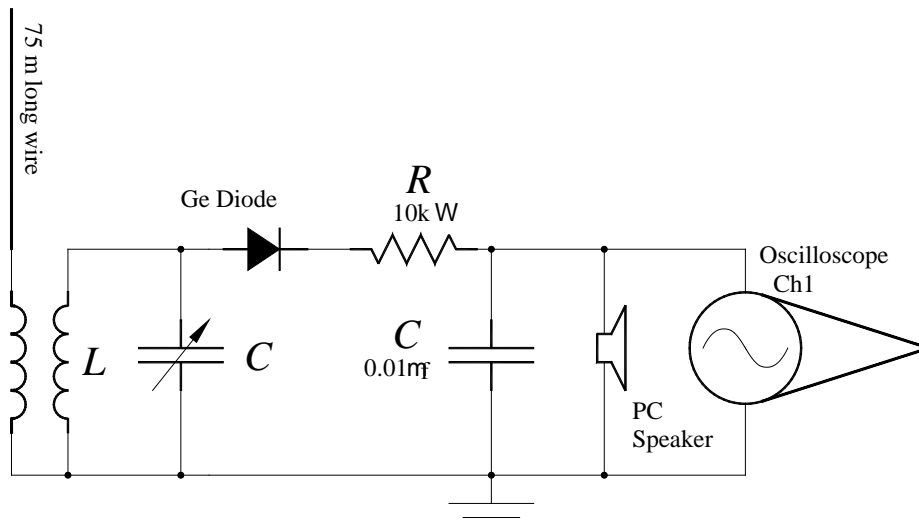

Figure 15 Complete Diagram of a radio with antenna and amplified speaker.
14) Disconnect your circuit from the function generator and oscilloscope by removing all leads attached to your circuit. Leave the rest of the circuit assembled. Please be careful not to drop the ferrite core out of the inductor as it will break. Take your radio to the lab bench with the antenna feed and plug in the amplified speaker from a PC to your circuit as shown in the Figure 15.